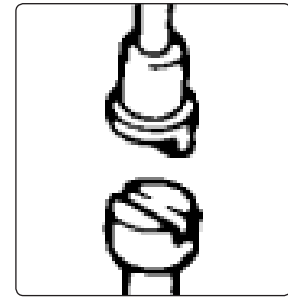

Fig.2
- 5.2. Rotate the release valve knob to locate the connecting rod into the release valve rod as shown in fig.2.